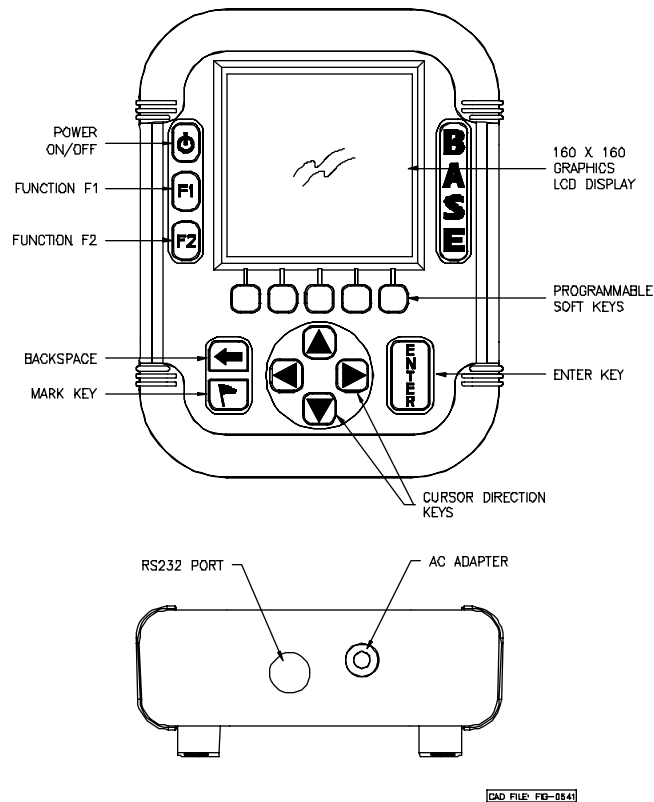

Figure 2. RSS Base Station
2.1 Base Station Description. The base station controls message traffic flow between the PC and the remote units. Note that the base station is a modified version of the remote. An RS232 interface, Alternating Current (AC) wall adapter and a different software package are the only differences between the base station and remote units. The Liquid Crystal Display (LCD) display and keypad are used for diagnostic test and status display on the base station. Figure 2 illustrates the features of the base station.